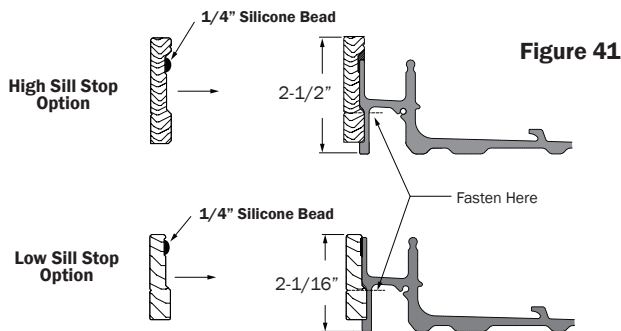

Figure 41
42. Before attaching sill stop to sill, apply a 1/4" bead of silicone along the full length of stop (Fig. 41).
43. Attach sill stop to sill using 1-1/4" Braid Nails, placed 8-10" apart, through the locator line on the stop (Fig. 41 & 42).